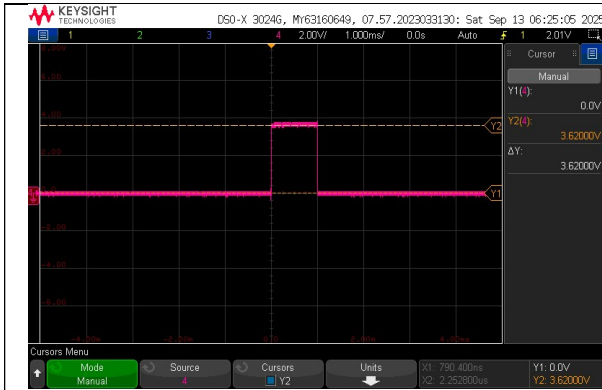

Figure 3 – Across 10ohms resistor
Figure 3 measures the voltage drop across the 10 ohms load resistor (RL).